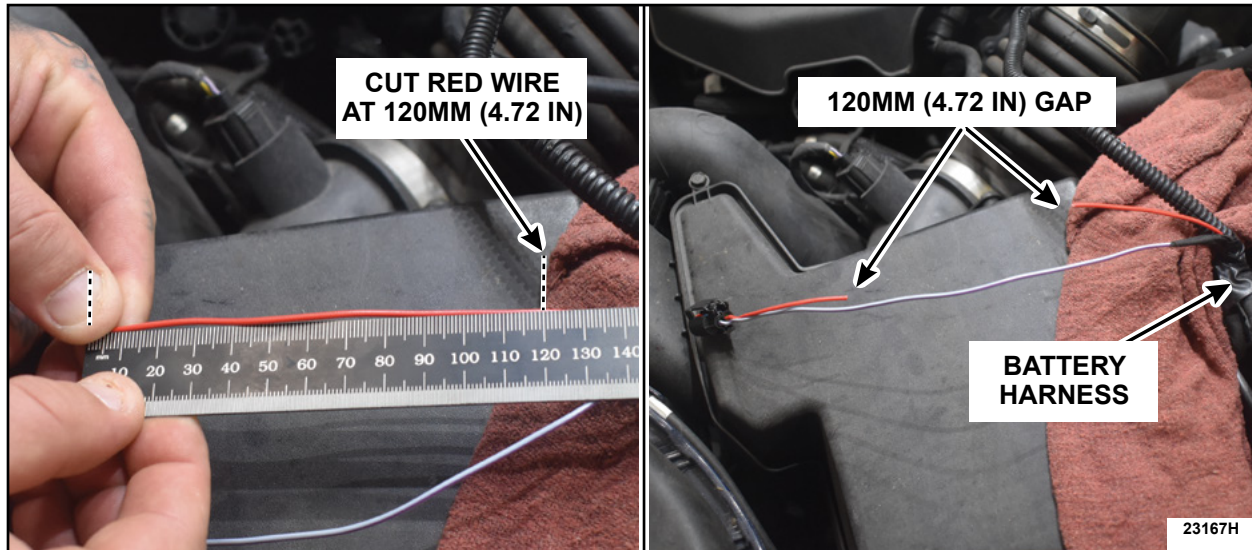

FIGURE 4
6. On the side of the red wire, leading back towards the battery harness, using a ruler, measure 120mm (4.72 in) and cut the red wire as shown in Figure 4. This will achieve a 120mm (4.72 in) gap in the red wire to install the in-line fuse holder.